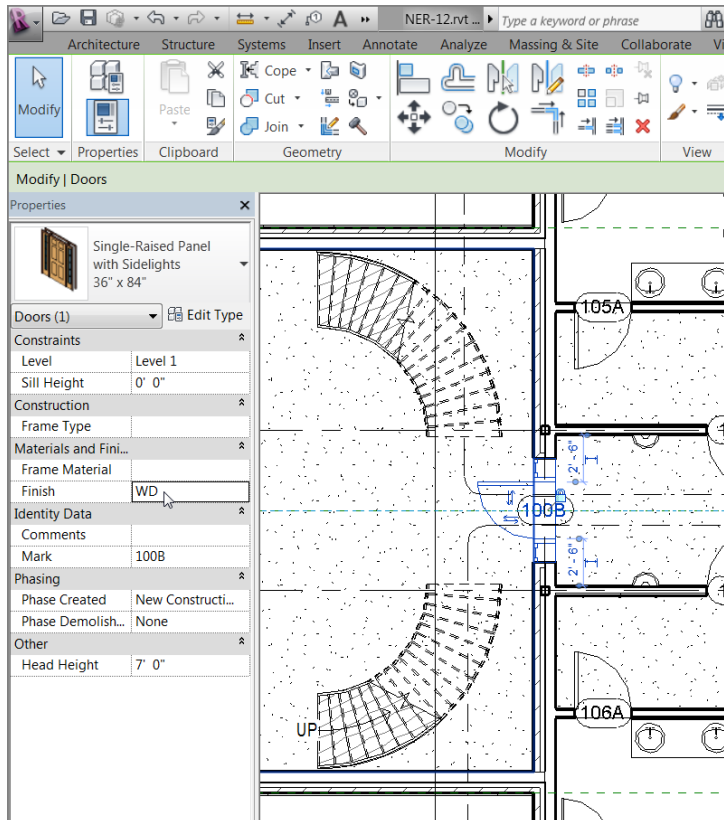

FIGURE 11.12: Changing the property of an element in the model does the same thing as changing the element in the schedule.
2. Zoom in on the door between the corridor and the east wing, as shown in Figure 11.12.
5. Click in the Finish field, and type WD (see Figure 11.12).